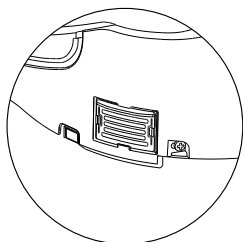

Fig 1
- ☐ Turn off water inlet valve (fig 1).
- ☐ Remove louver from the Bidet side (fig 1).
- ☐ when press release button, gently lift cover front tip (fig 1).